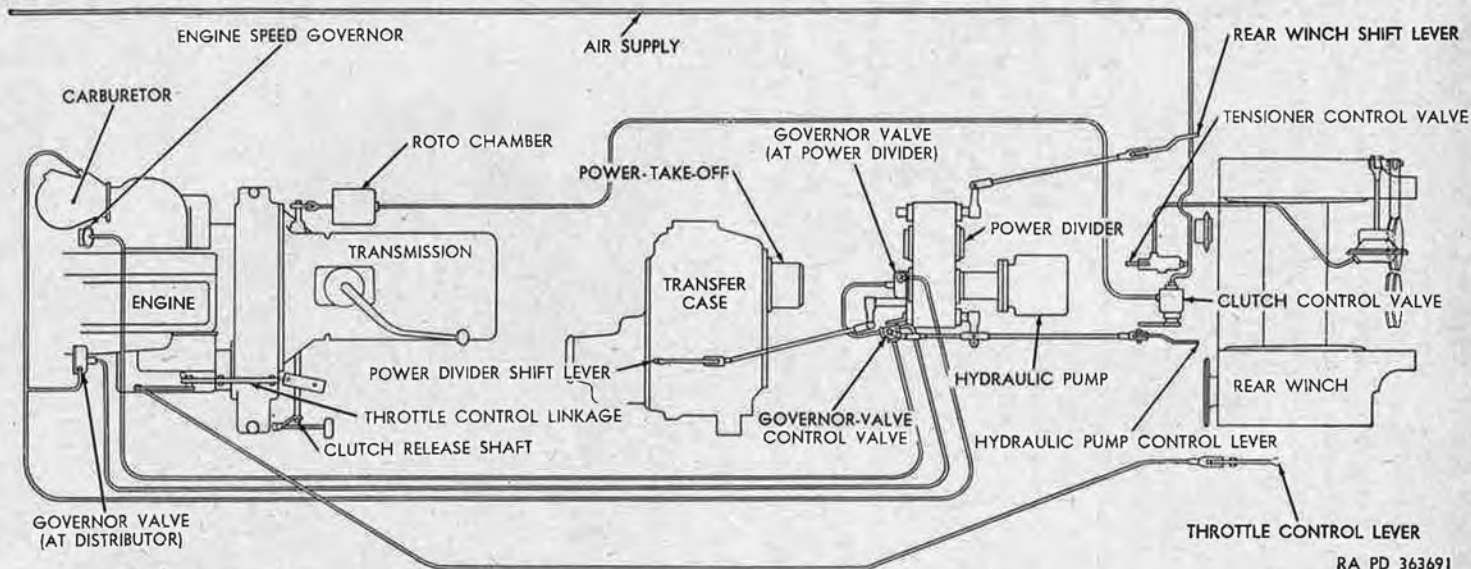
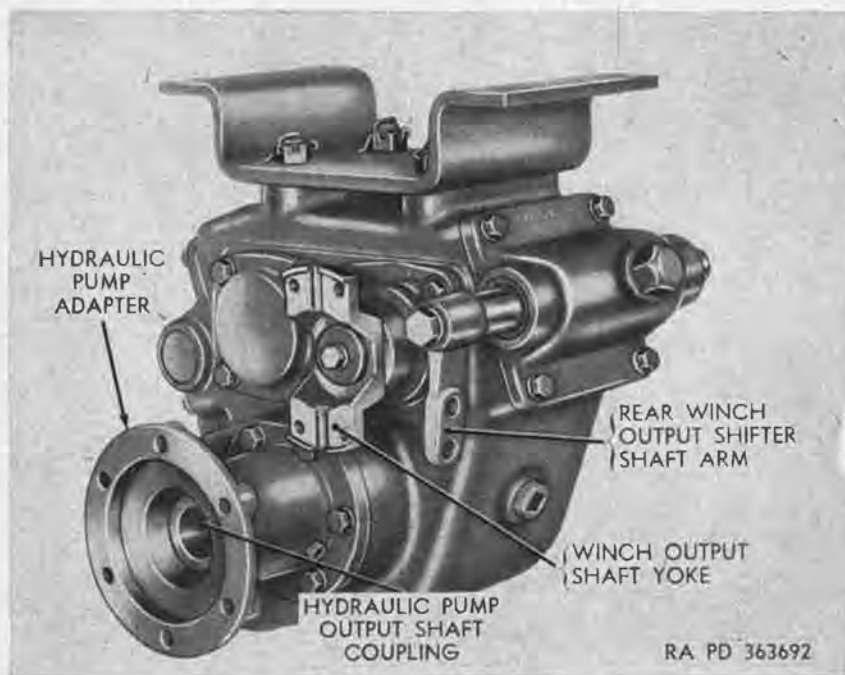
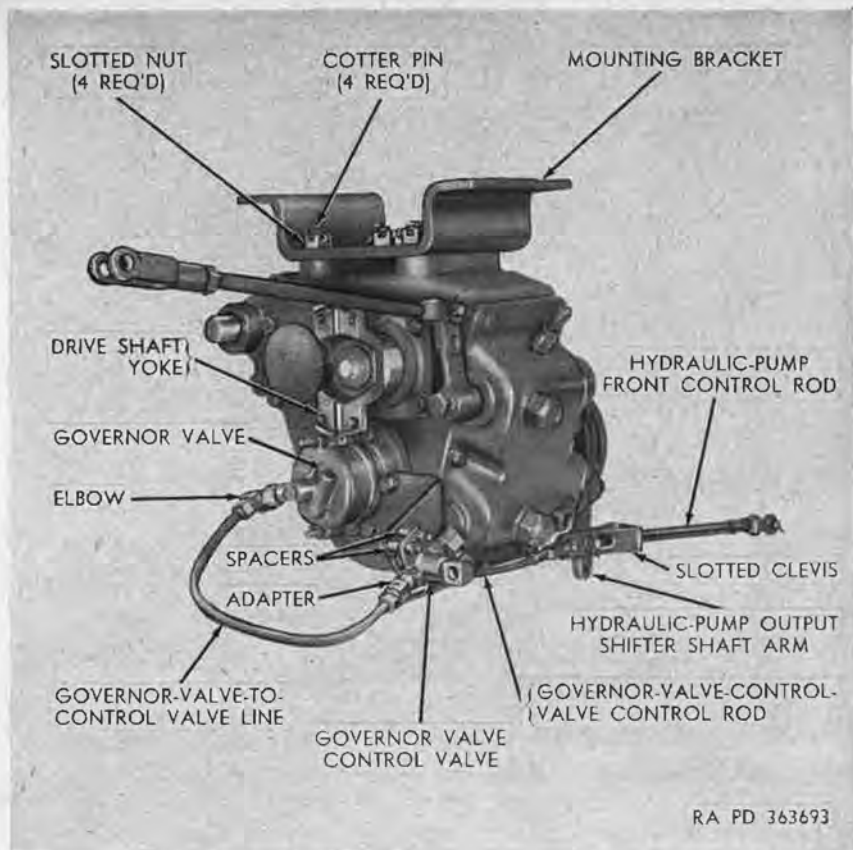
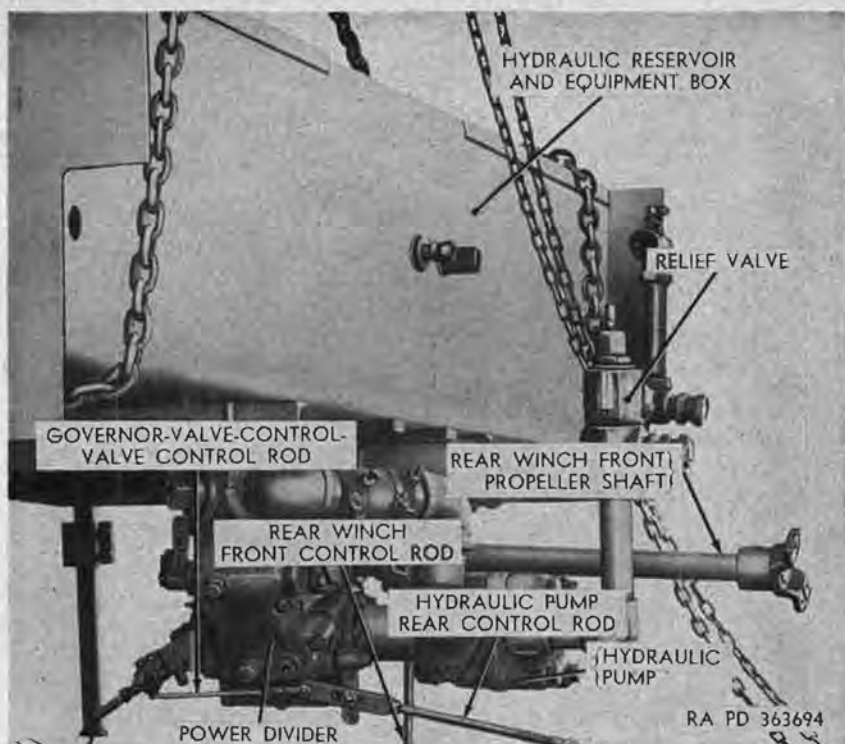

Figure 282. Wrecker crane (M62) air lines.
Figure 283. Rear view of power divider removed from vehicle M62.
Figure 284. Front view of power divider removed from vehicle M62.
Figure 285. Hydraulic reservoir with power divider, pump, and relief valve removed from vehicle (M62).
- (2) *Clutch control valve.* The clutch control valve (fig. 75) is a two-way air valve connected in the compressed air system (fig. 282) between the air supply line and the roto chamber ((3) below). The valve is bolted to a bracket attached to the front of the wrecker body floor plate. When the valve lever is in the DISENGAGE position, compressed air is permitted to pass through the valve and control-valve-to-roto-chamber air line into the rear end of the rotochamber.
- (4) *Power divider assembly.* The power divider assembly (figs. 283 and 284) is a single-speed gear box with one input (drive) shaft and two output shafts. It is mounted by a bracket to the bottom of the hydraulic reservoir (fig. 285). The drive shaft yoke (fig. 284) is connected by a propeller shaft and universal joint to the power-take-off (fig. 207) mounted on the rear of the transfer. The winch output shaft yoke (fig. 283) is connected by a universal joint to the front end of the rear-winch front propeller shaft (fig. 275). The hydraulic
pump output shaft is connected by a coupling (fig. 283) to the hydraulic pump input shaft. When the hydraulic pump control lever is in the DISENGAGE position, the air passages inside the governor-valve control valve (E, fig. 277 and fig. 282) are arranged so that the engine speed governor (fig. 282) is controlled by the governor valve (M, fig. 135) mounted on the rear of the distributor drive housing. This valve is adjusted to govern the engine speed at 2,950 rpm (maximum no-load speed) for truck operation (par. 126b). When the hydraulic pump control lever is in the ENGAGE position, the air passages inside the governor-valve control valve are arranged so that the engine speed governor is controlled by the governor valve (W, fig. 277) mounted on the front of the power divider. This valve is adjusted to govern the engine speed at 1,600 rpm (no-load) for crane operation. The power divider, hydraulic pump, and relief valve ((6) below) are removed from the vehicle as a single unit.
control rod (K, fig. 277), and governor-valve-control-valve control rod (G, fig. 277). The rear end of the rear control rod is connected to the lower end of the control lever (fig. 276) by a yoke and pin. The front end of the rear control rod is connected to the left lever of the relay lever assembly by a yoke and pin. The rear end of the front control rod is connected to the right lever of the relay lever assembly by a yoke and pin. The front end of the front control rod (fig. 284) is connected to the pump-output-shifter-shaft arm and to the rear end of the governor-valve-control-valve control rod. The front end of the governor-valve-control-valve control rod is connected to the valve lever (U, fig. 277).
- (6) *Hydraulic pump and relief valve.* The flange-mounted vane-type hydraulic pump (fig. 285) is bolted to the hydraulic pump adapter (fig. 283) mounted on the rear of the power divider. The hydraulic pump output shaft coupling (fig. 283) is keyed to the power-divider output shaft and to the
hydraulic-pump shaft. The adjustable relief valve assembly (fig. 285) is connected to the hydraulic-pump outlet port. The purpose of this valve is to protect the crane hydraulic system from excessive (above 1,200 psi) pump pressures.